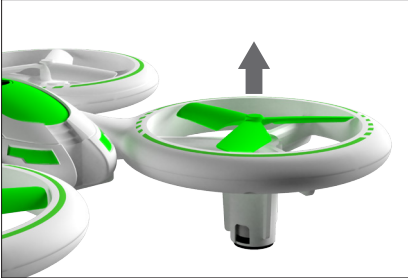

FIGURE 3
- To remove propeller, lift upwards on propeller until it snaps off (Fig. 3)